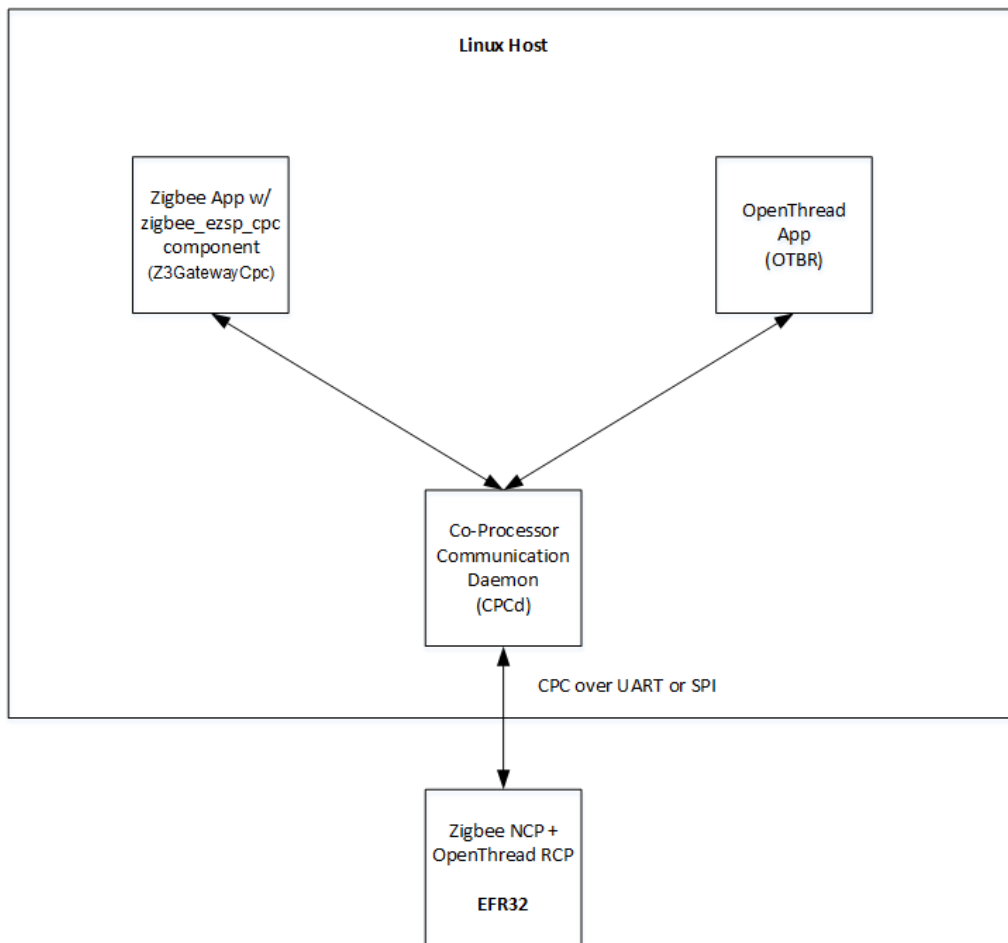

Figure 1-2. System Architecture for the Zigbee NCP + OpenThread RCP
3. The Zigbee NCP with OpenThread RCP runs the Zigbee stack on the EFR32 alongside the OpenThread RCP. The Zigbee application still runs on the host, and uses EZSP to send commands to the Zigbee NCP over CPC. Note that this solution does not make use of Zigbeed, because the Zigbee stack is running on the EFR32, not on the host. OpenThread runs on the host as in the other cases, and uses Spinel over CPC to communicate with the OpenThread RCP. Both UART and SPI links are supported. See Figure 1-2. System Architecture for the Zigbee NCP + OpenThread RCP. The project files are **zigbee_ncp-ot_rcp-uart.slcp** and **zigbee_ncp-ot_rcp-spi.slcp**.